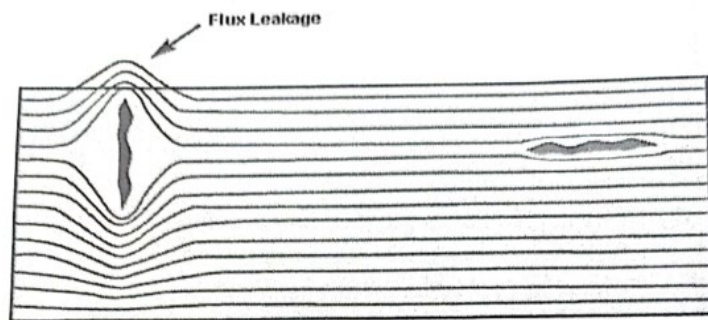

Figure 4(c) / Rajah 4(c)
- ii. Based on Figure 4(c), assign the name of this testing and write up the procedure on how to perform it.